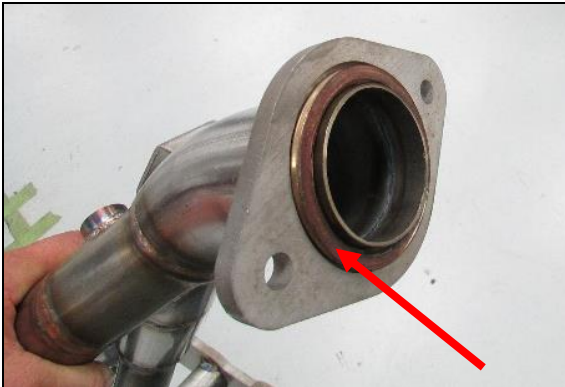

Figure 9
1. You will reuse the OEM manifold gasket, OEM seal ring, and OEM O2 sensor. Check and replace if needed. Transfer the OEM seal ring & OEM O2 sensor to the Hooker BlackHeart header (**Figures 9 & 10**).